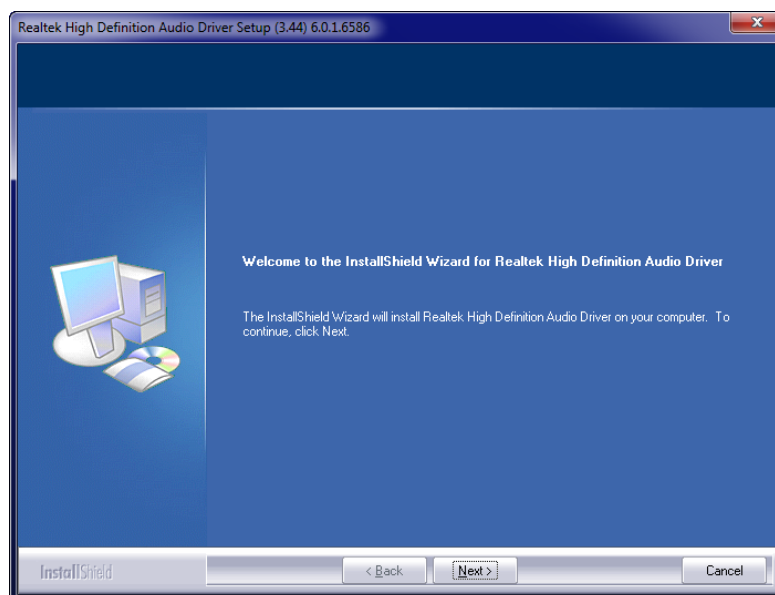

Figure 8-15: Audio Driver Welcome Screen
Step 4: The **Audio Driver Welcome Screen** in **Figure 8-15** appears.